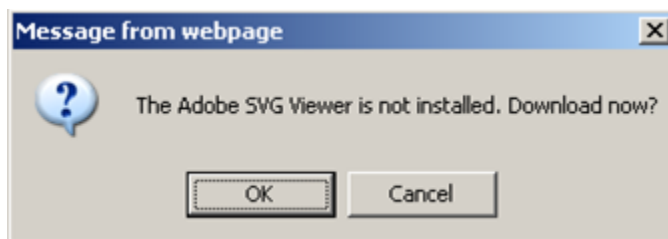

Figure 5-8: **Message from webpage** dialog
9. If this is the first time an IRIS production has been run on this system, the message shown in Figure 5-8 may display. If this message does not display, skip to step 10.